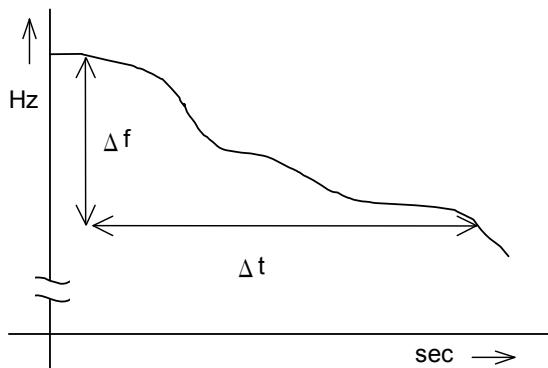

Figure 2.3.2 Frequency Rate-of-Change Element
The frequency rate-of-change element calculates the gradient of frequency change (df/dt). GRD150 provides two rate-of-change elements, a frequency decay rate element (D) and a frequency rise rate element (R). These elements measure the change in frequency (Δf) over a time interval ($\Delta t=100ms$), as shown Figure 2.3.2 and calculate the $\Delta f/\Delta t$ every 5 ms. They operate when the frequency change exceeds the setting value 50 consecutive times.